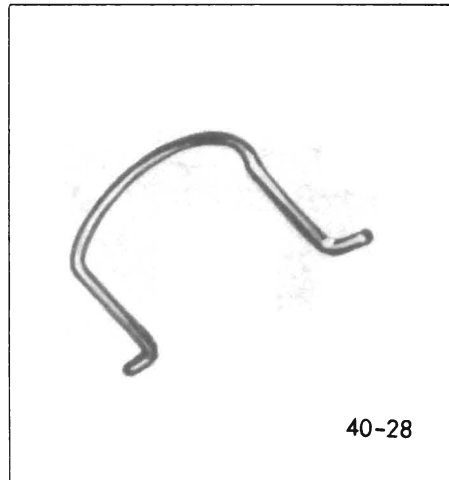

Figure 40-34 - Valve Tension Spring
**NOTE:** Tension spring has one short foot and one long foot. The short foot fits under the distributor valve and the long foot fits into a hole drilled at an angle in the boss. See Figure 40-34.